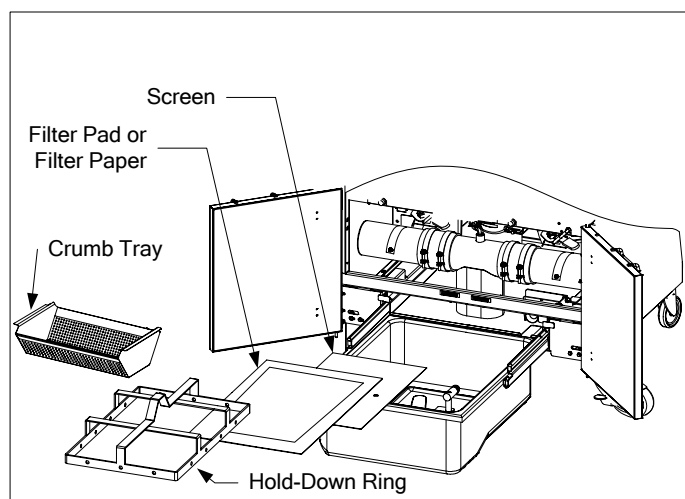

Figure 1
(See Figure 1) Clean all metal parts with a solution of All Purpose Concentrate and hot water then dry thoroughly.
- Reinstall the crumb tray at the front of the pan. (See Figure 1)